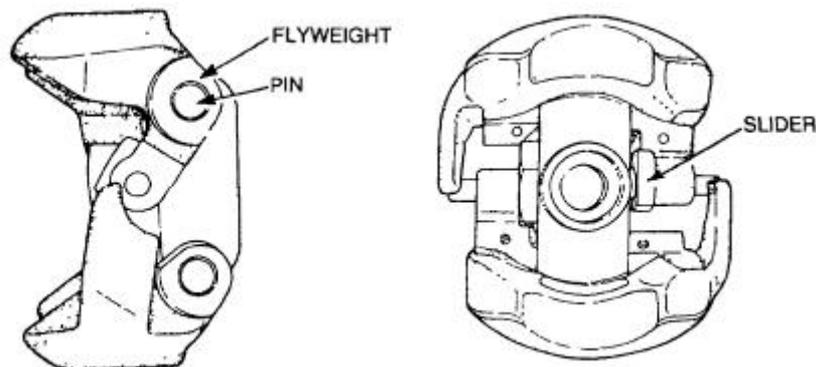

Figure 104 Flyweight Inspection
- c.** Inspect the flyweight assembly. Check for perceivable radial clearance between the flyweight and the pivot pin, and the slider and pivot pin on the contact surface of the slider (Figure 104). If any of these faults are evident, replace the flyweight assembly.